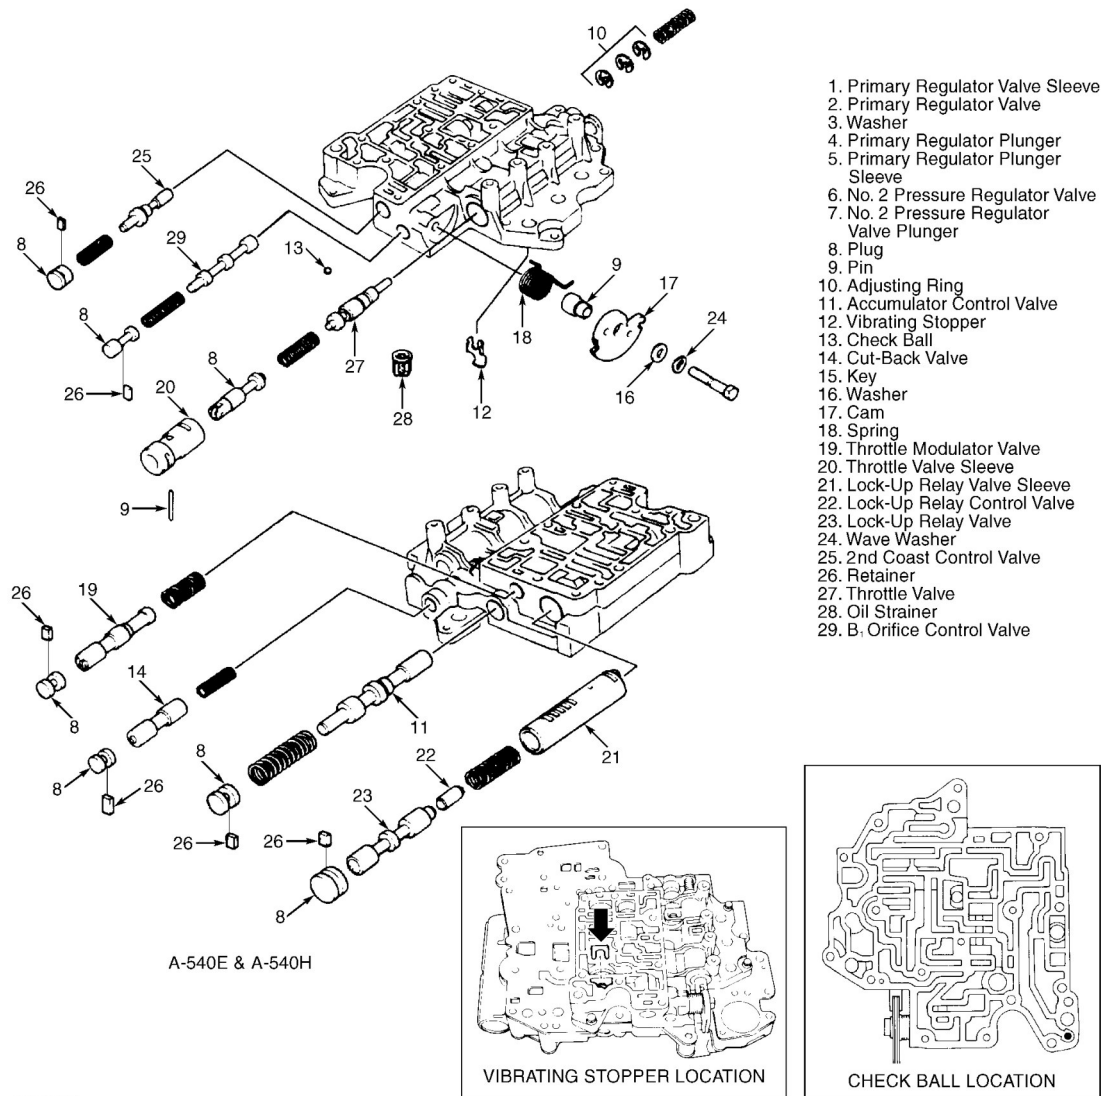

Fig. 33: Exploded View Of Upper Valve Body (Viewed From Both Ends)
1. To remove 2nd coast modulator valve, remove retainer with a magnet. Remove plug, spring and valve. To remove B1 orifice control valve, remove retainer with a magnet. Remove plug, spring and valve. See **Fig. 33**.